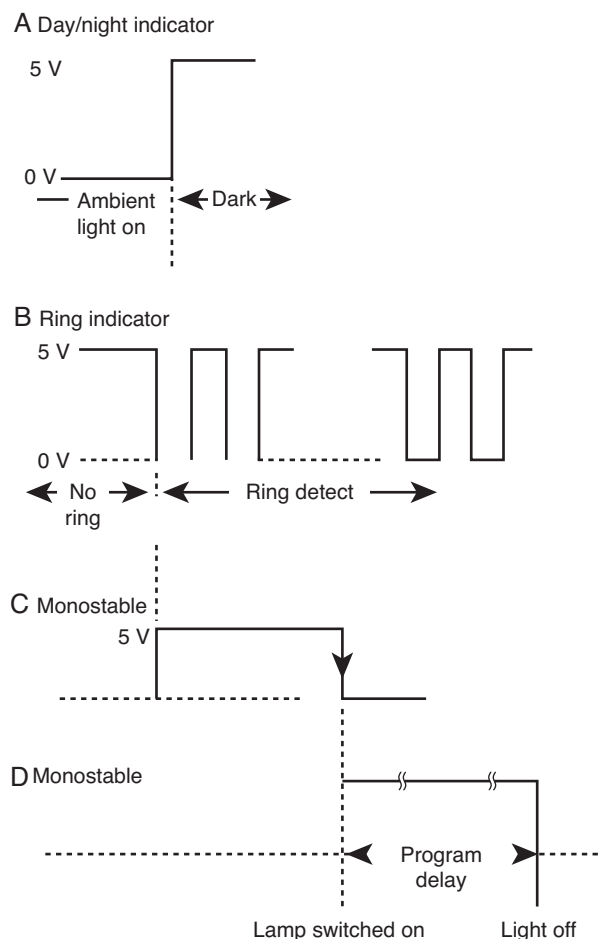

Figure 14-9 Smart phone light waveforms
sensitivity of LDR can be changed by changing resistance R2 connected at collector of the transistor in light monitor circuit. Similarly, switch-on period of the lamp can be controlled by changing capacitor C3's value in the second 74123(B) monostable circuit. The diagram shown in Figure 14-9 illustrates the timing waveforms during different circuit modes of operation.